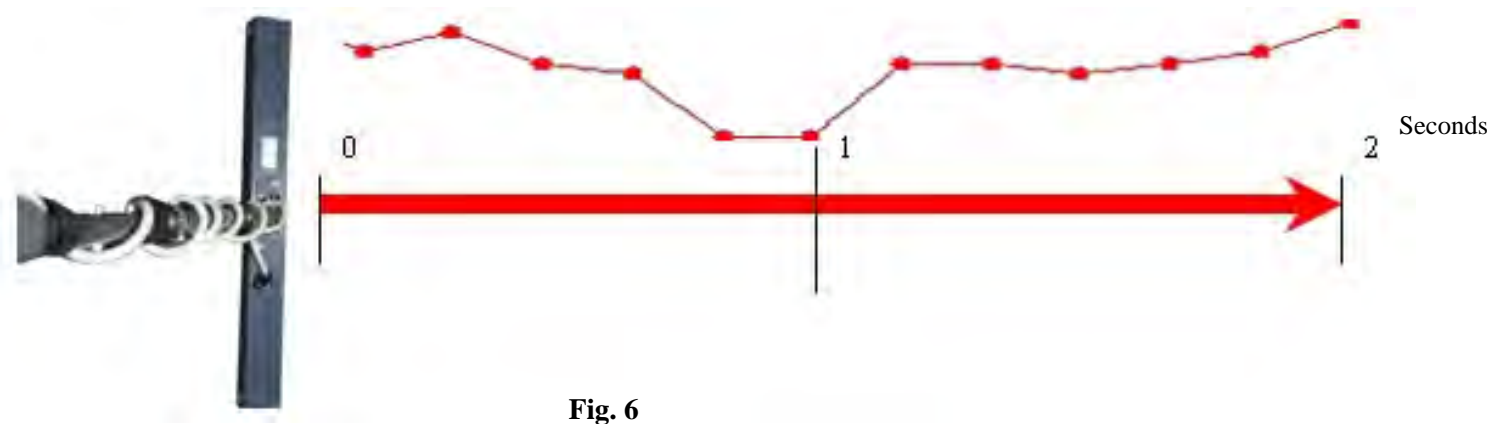

Fig. 6
5. You will need to make your exact ground balance point for your scan in the middle of your initial 2 second verification scan, this is the optimal spot. Refer to Fig.6